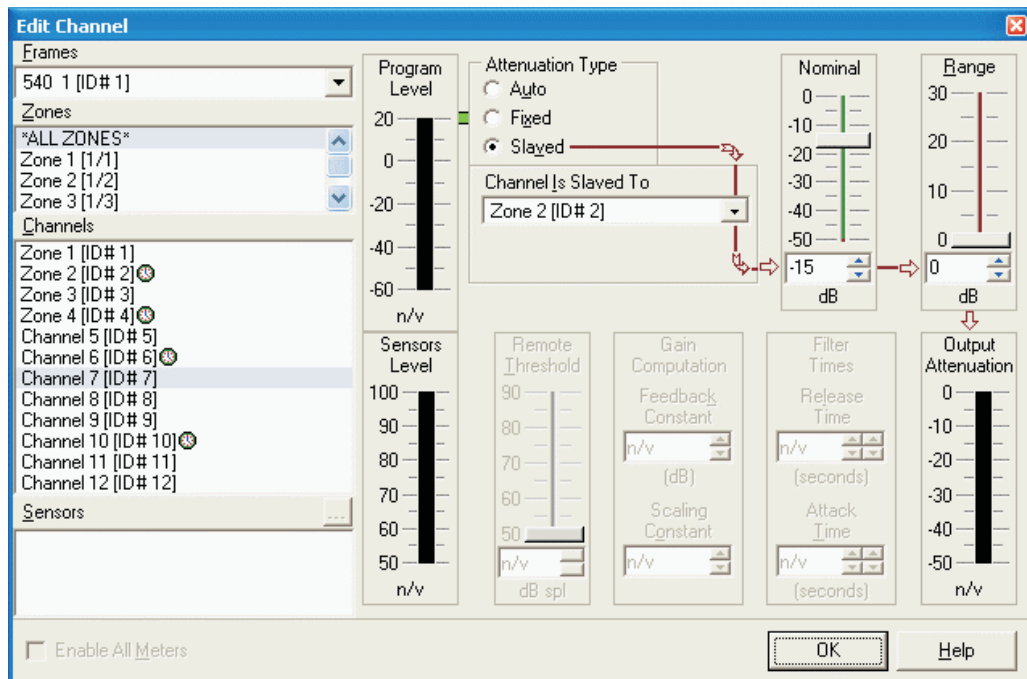

Figure 32 - Edit Channel Offline, Slaved Mode
- **Slaved mode** (See Figure 32) means that the channel is slaved to an “auto” mode channel and changes attenuation as the “auto” mode channel changes, with or without an offset and not exceeding its minimum and maximum attenuation limits. Note: While on the same channel, if the type was “slaved” mode, then this program will remember the last controlling channel. If the user has not moved off of the same channel and decides to go back to “slaved” mode, then the last assigned controlling channel will be automatically reloaded.